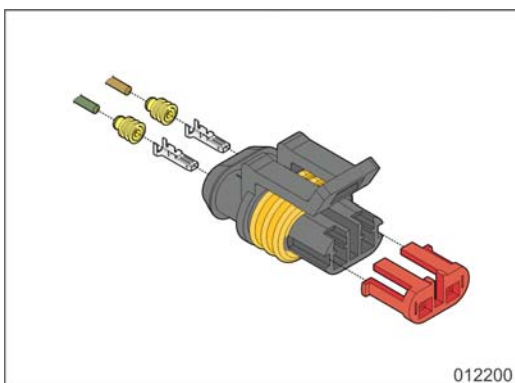

Figure 3
- f) **For the green and brown wires (refer to figure 3):** slide a wire seal 10970038 from the kit over each wire. Strip back the wires, and crimp a terminal 10970074 from the kit onto each wire. Insert the terminal of the brown wire in contact number 2 of the connecting plug, the green wire in contact number 1. After insertion of a terminal, pull back the wire lightly to check if the terminal is securely locked in position. Push the red anti-back out device into the connecting plug. Connect the connecting plug to the relay.